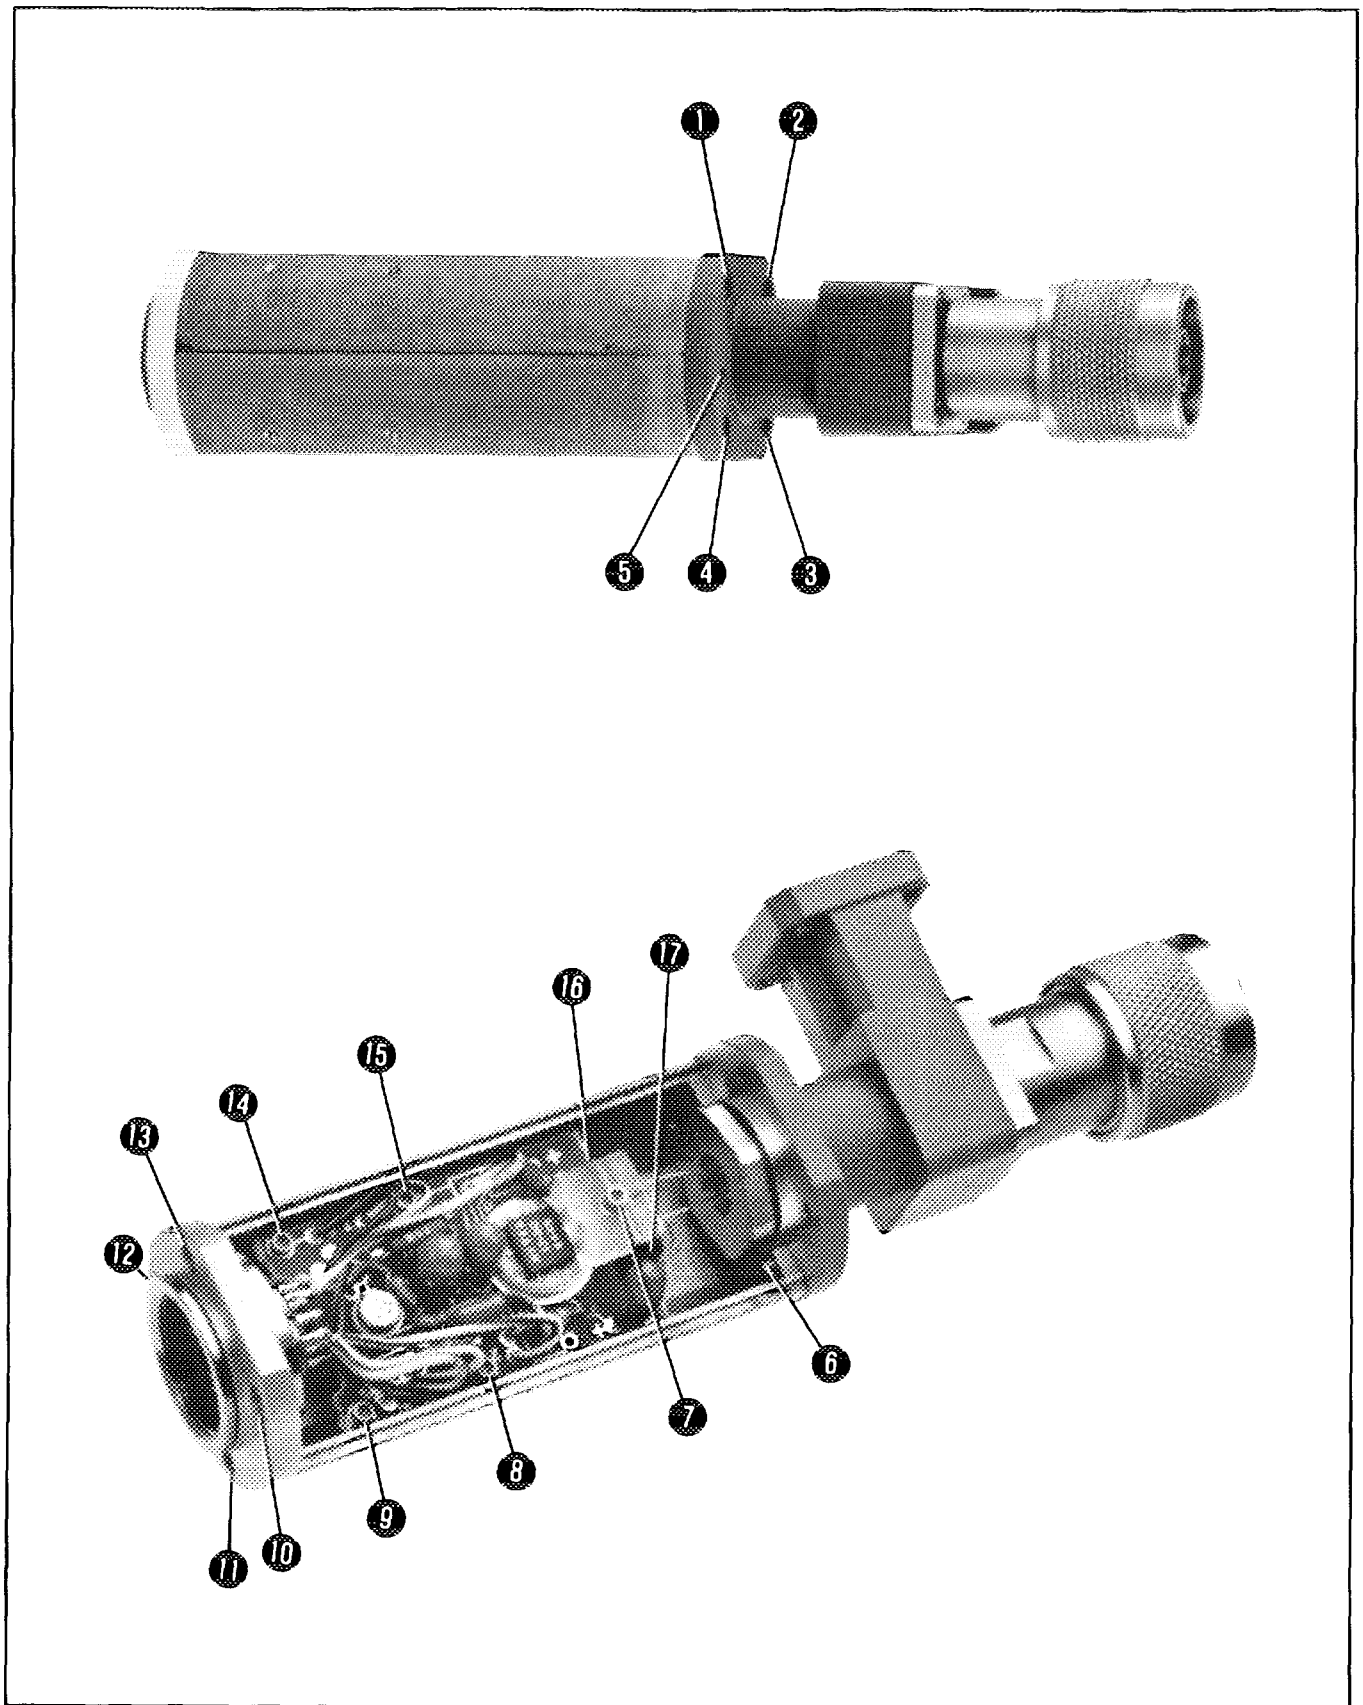

Figure 7. Power Sensor Hardware Locations
c. Position Power Sensor as shown in Figure 7, top view. (Small hole (5) should be on left side of rf input connector). Remove allen cap screws (1), (2), (10), and (13). Loosen screws (11), and (12). Remove upper chassis from Power Sensor.
d. Remove clamp screw (7) together with screw spring and clamp (16). This will free two gold wires that come from bulkhead assembly.
e. Remove cap screws (6), (3), and (4).
g. If A2 Input Amplifier Assembly must be removed, then remove cap screws (8), (9), (11), (12), (14), and (15).
place as shown in Figure 7, opened view.